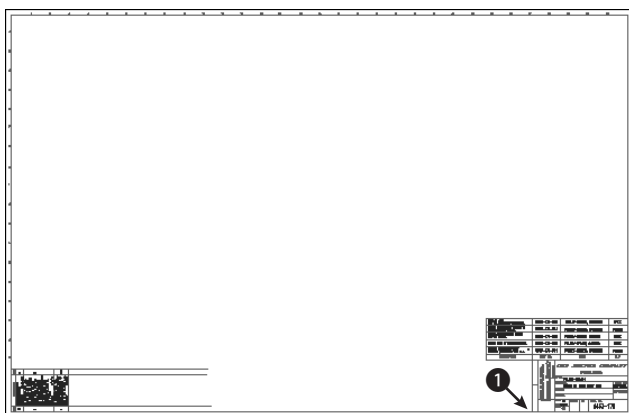

Figure 18-7: A title block can be saved as a file and inserted into any other drawing.
2. Save the file as `ab18-02.dwg` in your AutoCAD Bible folder. This is a large title block as shown in Figure 18-7. OSNAP should be on. Set a running object snap for endpoint.
6. Use Zoom Window to zoom in on the text at the bottom-right corner of the title block. At the `Select objects:` prompt, select all the 90° rotated text at ❶ in Figure 18-7. Press Enter to end selection.